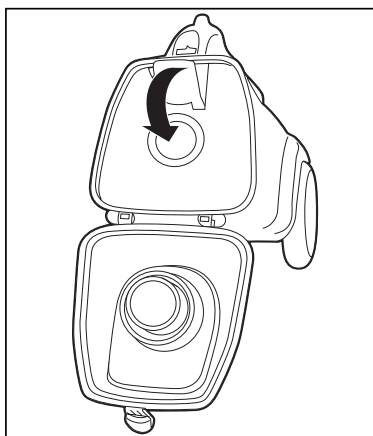

Fig. 11
Step 3: Fold BAG CLOSURE FLAP down and push behind rubber seal (Fig. 11).